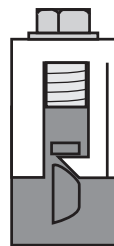

Figure 10a
1. To install dropwire, back the driver module off until it clicks or bolt spins freely in the "up" position. (Fig. 10a)
1. To disconnect or remove a drop wire, back driver module off until it clicks or bolt spins freely in the "up" position. (Fig. 10a) Remove conductors. Return module to the "down" position (Fig. 10b) and test at test port to the C.O. Trim drop wire ends 1/2" before reinstalling.